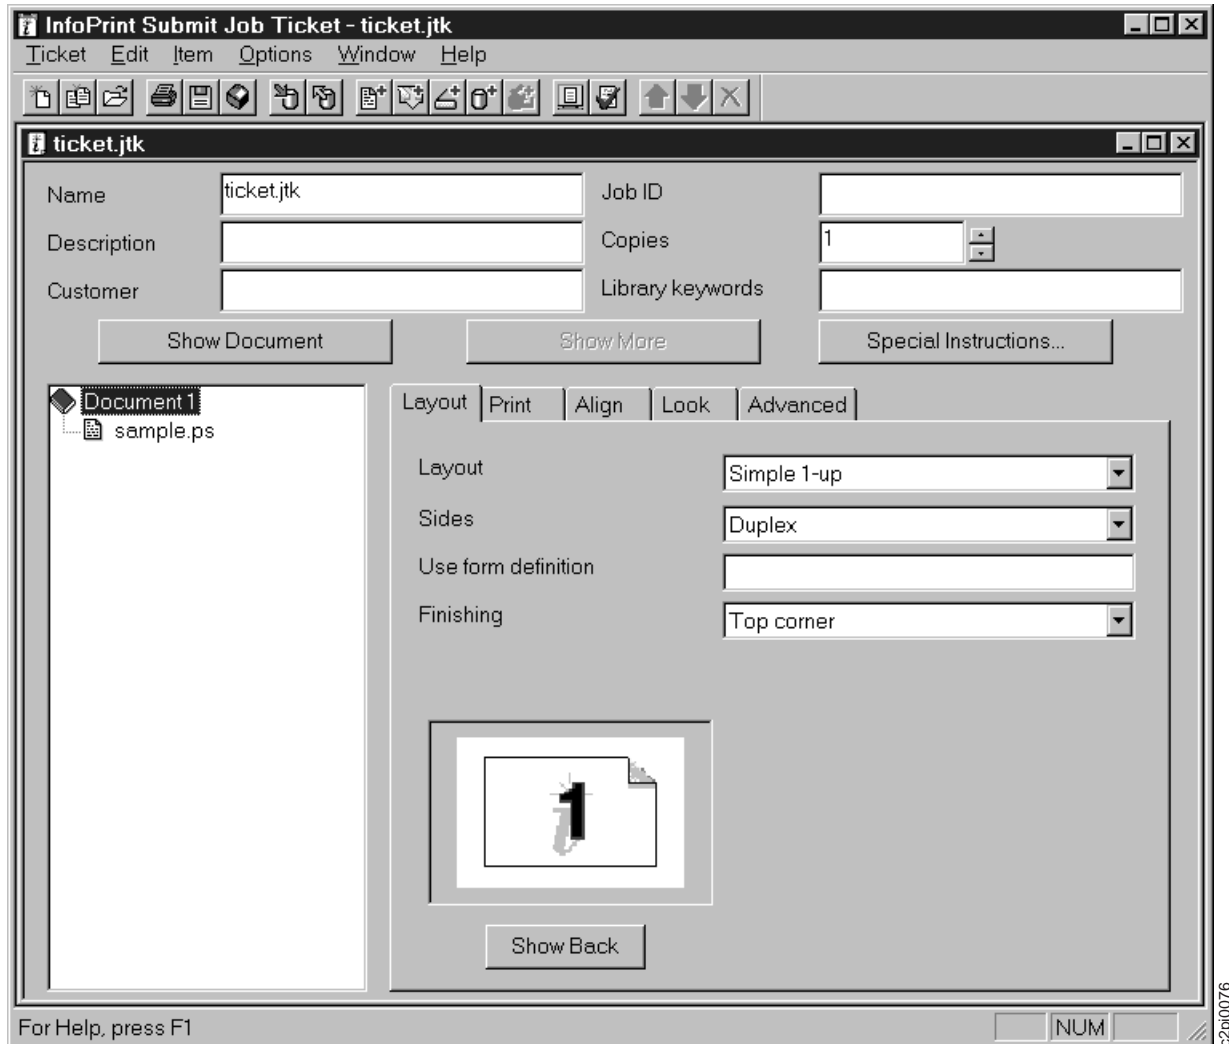

Figure 41. Top Left Corner Staple
1. From the InfoPrint Submit Job Ticket window (Figure 41), insert the file to be printed or finished: